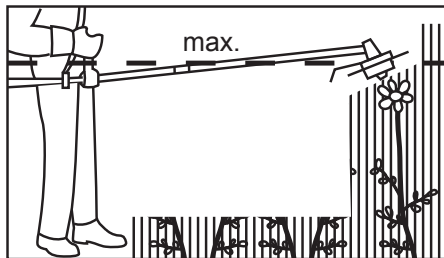

Fig. 21
4. Never hold the cutting head higher than your hip (Fig. 21), the higher you hold the cutting head will increase the risk of objects being thrown.